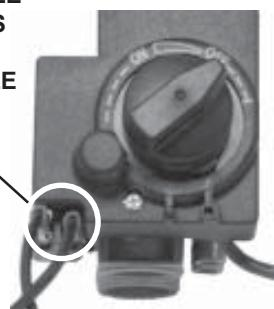

Figure 1
**Step 1.** Attach the supplied wires with female connectors to the proper mating terminals on the valve (See Figure 1).